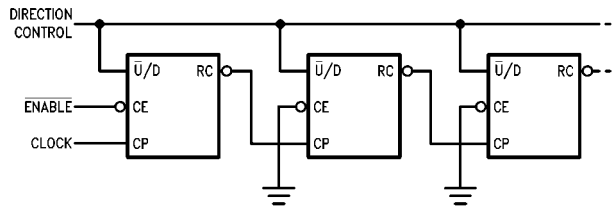
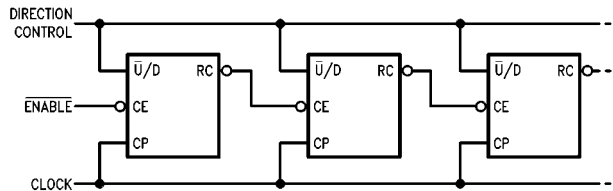

FIGURE 1. N-Stage Counter Using Ripple Clock
FIGURE 2. Synchronous N-Stage Counter Using Ripple Carry/Borrow
The TC signal is also used internally to enable the Ripple Clock (RC) output. The RC output is normally HIGH. When CE is LOW and TC is HIGH, RC output will go LOW when the clock next goes LOW and will stay LOW until the clock goes HIGH again. This feature simplifies the design of multistage counters, as indicated in Figure 1 and Figure 2. In Figure 1, each RC output is used as the clock input for the next higher stage. This configuration is particularly advantageous when the clock source has a limited drive capability, since it drives only the first stage. To prevent counting in all stages it is only necessary to inhibit the first stage, since a HIGH signal on CE inhibits the RC output pulse, as indicated in the RC Truth Table. A disadvantage of this configuration, in some applications, is the timing skew between state changes in the first and last stages. This represents the cumulative delay of the clock as it ripples through the preceding stages.
A method of causing state changes to occur simultaneously in all stages is shown in Figure 2. All clock inputs are driven in parallel and the RC outputs propagate the carry/borrow signals in ripple fashion. In this configuration the LOW state duration of the clock must be long enough to allow the negative-going edge of the carry/borrow signal to
The configuration shown in Figure 3 avoids ripple delays and their associated restrictions. The CE input for a given stage is formed by combining the TC signals from all the preceding stages. Note that in order to inhibit counting an enable signal must be included in each carry gate. The simple inhibit scheme of Figure 1 and Figure 2 doesn't apply, because the TC output of a given stage is not affected by its own CE.